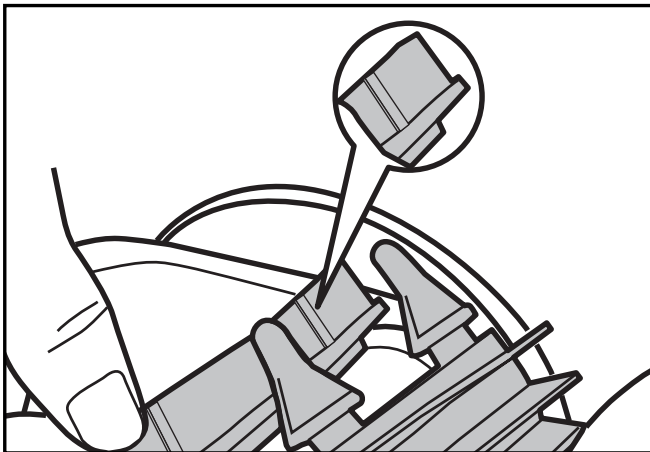

Figure 24. Wear Indicators
The cleaner is fitted with PVC brushes in front and rear. There are "wear" indicators (Figure 24) on the brushes. To maintain cleaner performance at its best you need to replace the brush matt as soon as one of the wear indicators has been reached (even if the bristle wear is not even). Baracuda recommends that you replace the brushes every two (2) years.